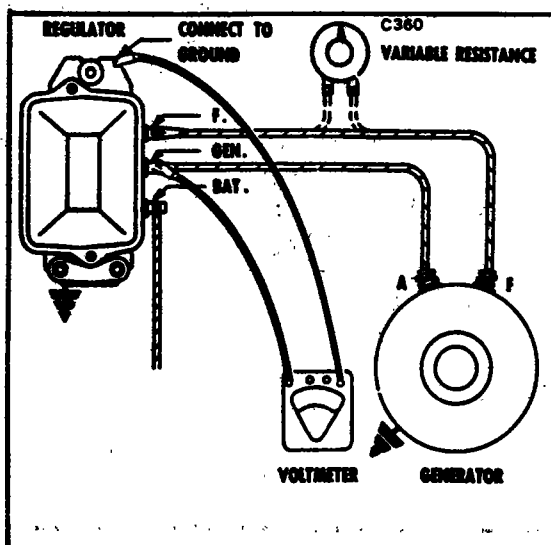

Figure 11-12. Checking Cutout Relay Closing Voltage
a. **Air Gap:** Place fingers on armature directly above core and move armature down until points just close and then measure air gap between armature and center of core. (Refer to Figure 11-12.) On multiple contact point relays, make sure that all points close simultaneously. If they do not, bend spring finger so they do. To adjust air gap, loosen two screws at the back of relay and raise or lower the armature as required. Tighten screws after adjustment.
c. Closing Voltage: Connect regulator to proper generator and battery. Connect voltmeter between the regulator "GEN" terminal and ground. (Refer to Figure 11-12.)
Method 2: Make connections as in step c; but, in addition, add a variable resistor connected into the field circuit. (Refer to Figure 11-12.) Use a 25-ohm 25-watt resistor. Operate generator at medium speed with variable resistance turned all in. Slowly decrease (turn out) the resistance until cutout relay points close. Note closing voltage. With cover in place, slowly increase (turn in) resistance to make sure points open.